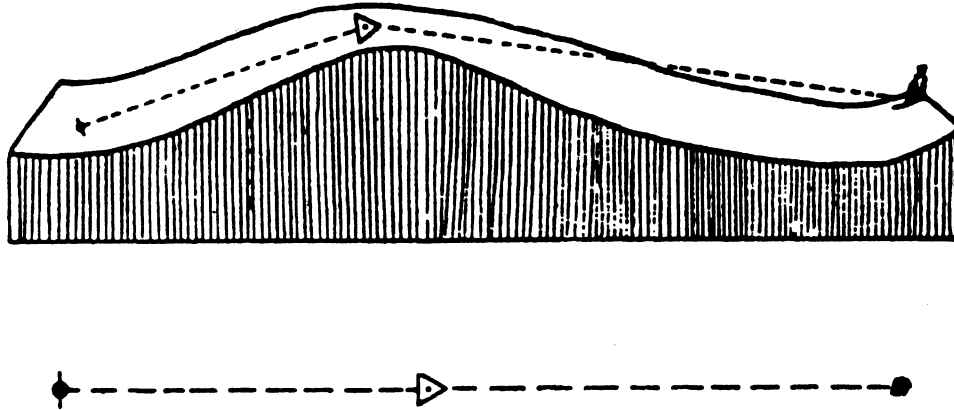

Fig 4-11. Indirect lay/direct alignment.
e. Indirect lay/direct alignment. This method is simple and accurate. The observer positions himself on or near the crest of the mask in front of the gun and aligns himself with the target and gun. The following steps are used to fire indirect lay/direct alignment, which is illustrated in figure 4-11.
- (1) The observer, located on the mask, locates the target and moves laterally along the crest until he feels he is aligned on the proposed gun target line.
- (2) The observer then shoots an azimuth to the target and a back azimuth to the gun. If the two azimuths are not equal, he adjusts his position until they are equal.
- (3) Next, the observer places an aiming stake at the point where the azimuths were equal. Then he moves over the crest of the mask and out of the line of fire.
- (4) Once the observer is clear of the line of fire, you will again fire the long initial burst and await adjustments in mils from the observer.